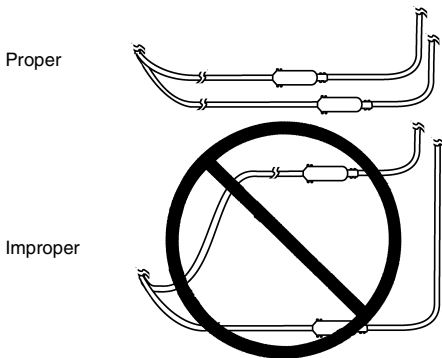

Figure 2. Routing for two lead extensions.
- When two leads are implanted, route the lead-extensions so the area between them is minimized (Figure 2). If the lead-extensions are routed in a loop and the patient is exposed to some sources of electromagnetic interference (eg, theft detectors), the patient may perceive a momentary increase in stimulation, which some patients have described as uncomfortable stimulation (jolting or shocking sensation).